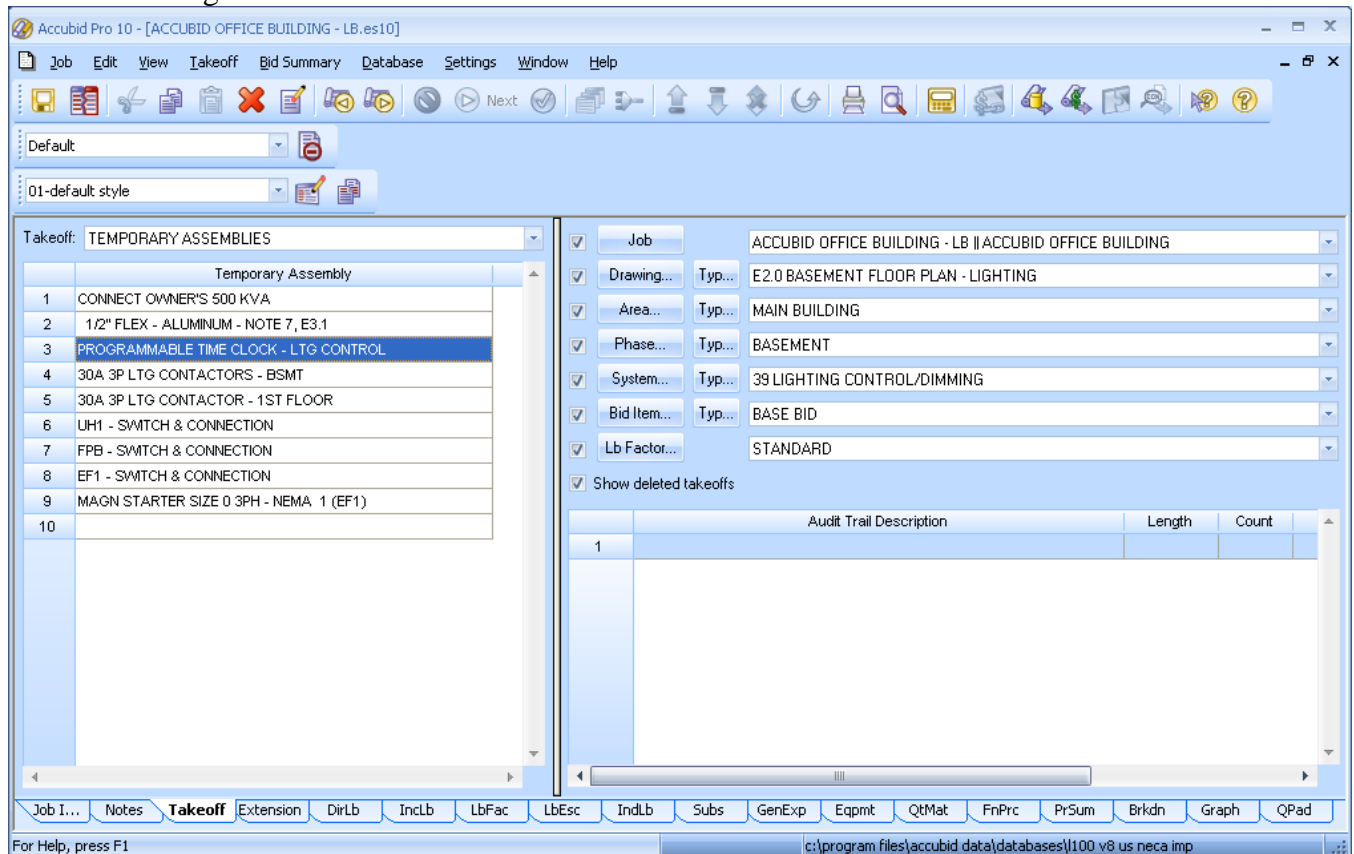

Figure 1
6. Set the Breakdown and choose Takeoff: TEMPORARY ASSEMBLIES from the Takeoff list as shown in Figure 1.